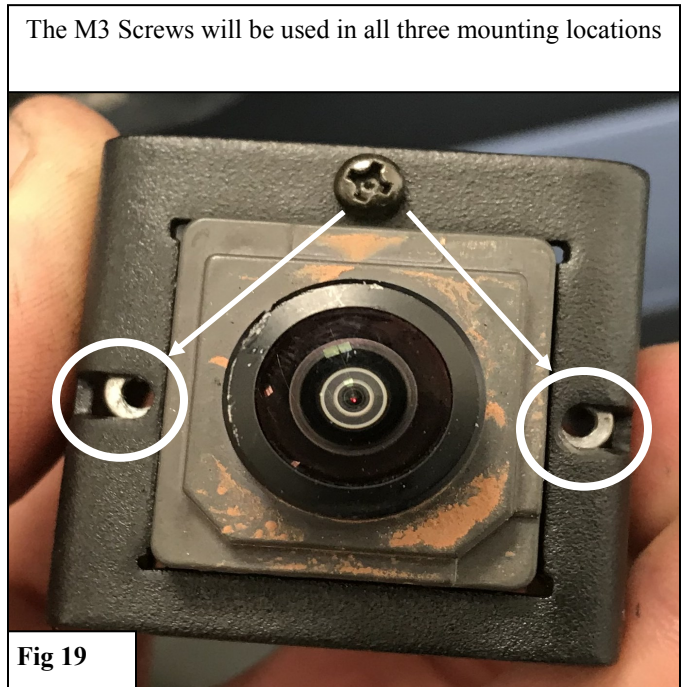

Fig 19
23. Obtain the Camera Mounting Bracket (11) and attach the camera using the supplied M3 Screws (13). **See Figure 19.**